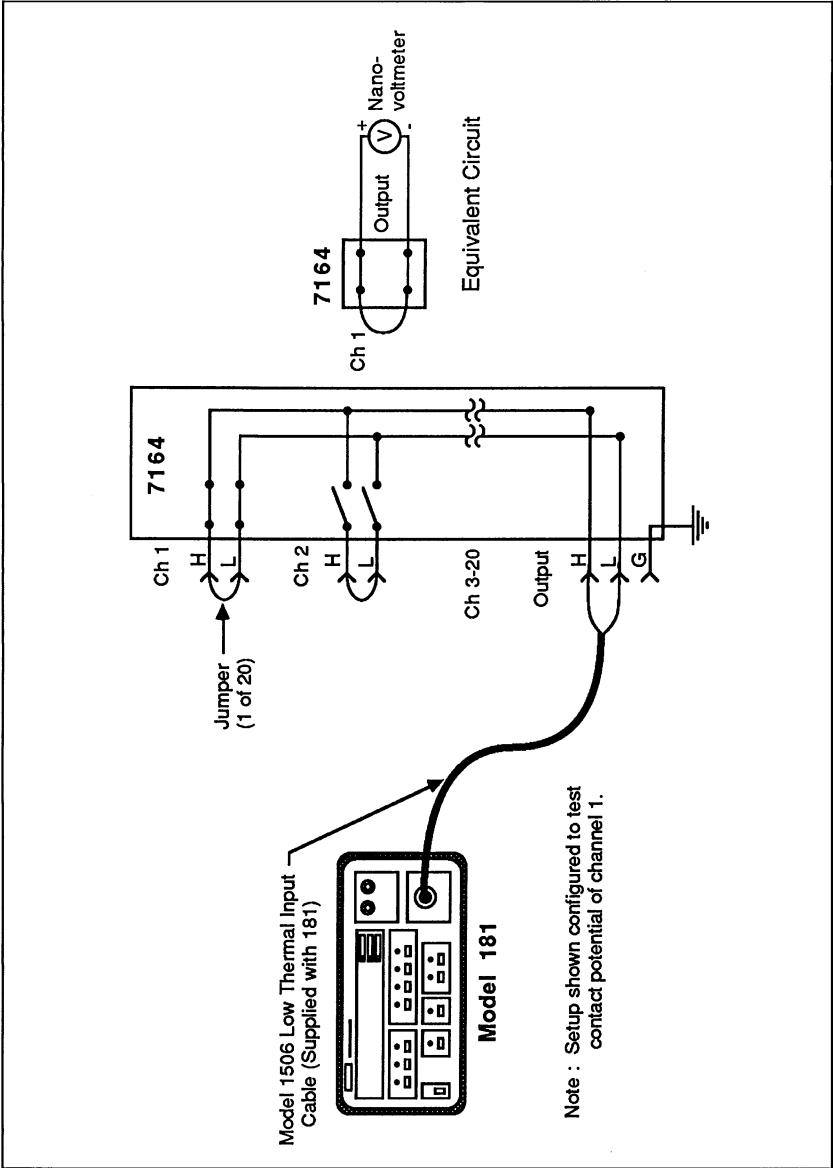

Figure 4-5. Contact Potential
Referring to Figure 4-5, perform the following procedure to check contact potential of each channel:
2. Using Figure 4-3 to identify scanner card terminals, connect the Model 181 to the scanner card as shown in Figure 4-5.